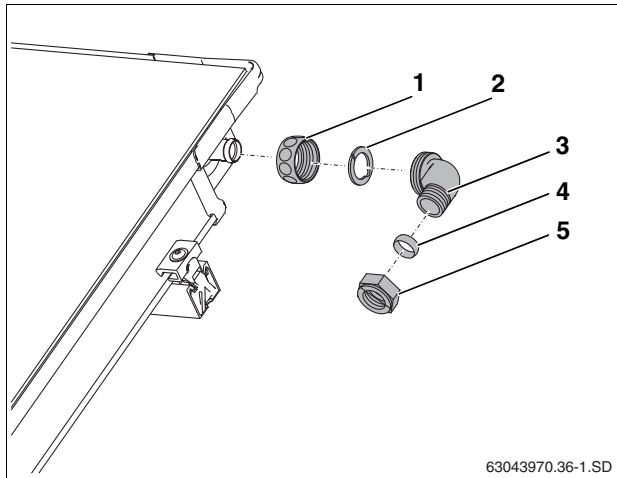

Fig. 57 Fitting supply pipe (with no vent on roof)
- ▶ Push the nut (Fig. 57, [1]) over the collector connection.
- ▶ Open the washer (Fig. 57, [2]) slightly without separating the two pieces, slide over the collector connection and press together.
- ▶ Align the elbow (Fig. 57, [3]) with the nut and washer and tighten.